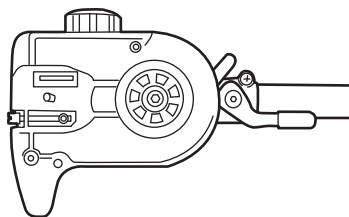

Fig. 27a
2). Check the oiling port (D14) for clogging and clean if necessary to ensure proper lubrication of the guide bar and saw chain during operation. Use a soft wire small enough to insert into the oil discharge hole. (See Fig. 27a)